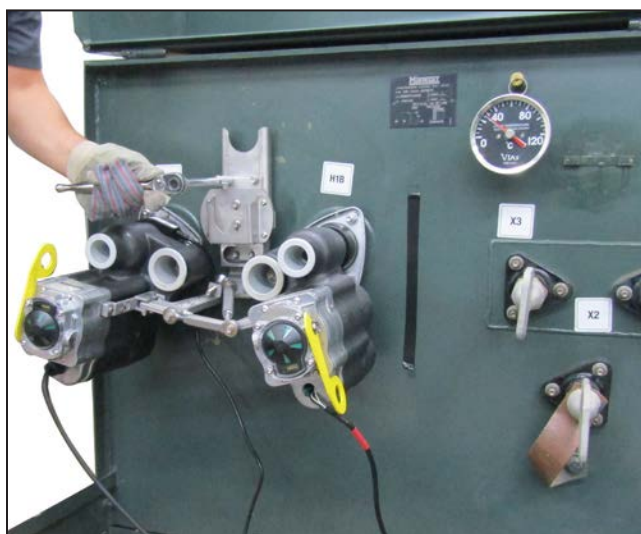
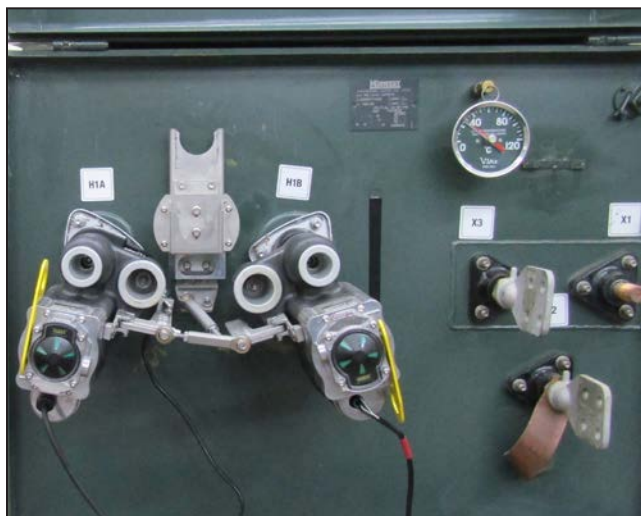

Figure 36. Insert screws into holes on extender. Tighten screws on parking stand spacer and parking stand extender.
Figure 37. Completed parking stand extender and parking stand spacer installation.
- STEP 7.** Tighten the four $\frac{1}{4}$ -20 \times $\frac{5}{8}$ -inch flange head bolts (two on the parking stand spacer and two on the parking stand extender) to 6 ft-lbs. See Figure 36. This will secure the parking stand spacer to the parking stand and the extender. The completed parking stand extender and parking stand spacer installation is shown in Figure 37.